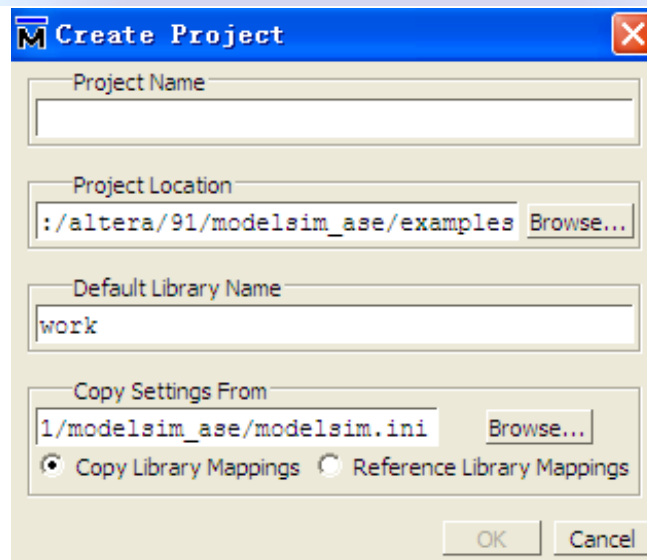

Figure 2.2 Create Project Dialog
1. Select **File > New > Project** to create a new project. This opens the **Create Project** dialog window where you can specify name, location, and default library name of a project. You can generally leave the **Default Library Name** set to "work." The name you specify will be used to create a working library subdirectory within the Project Location. This dialog window, shown in Figure 2.2, also allows you to refer library settings from a selected .ini file or copy them directly into the project.